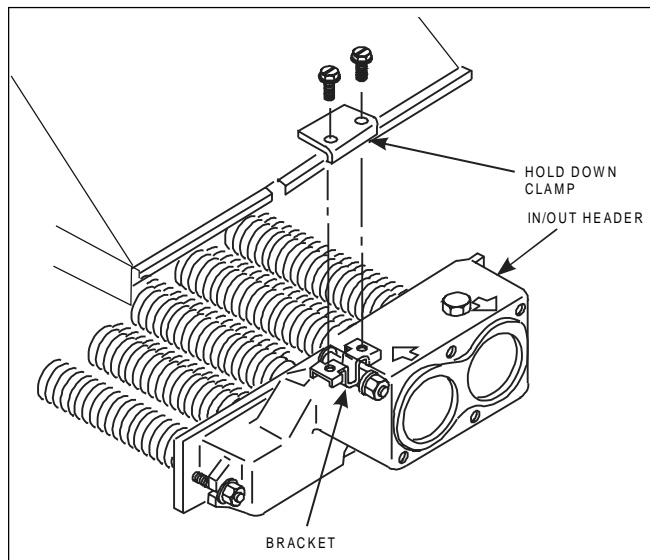

Figure 13. Flue collector hold-down brackets.
6. Remove the screws securing the two flue collector hold down clamps and remove the clamps (see Figure 13). Remove flue collector.